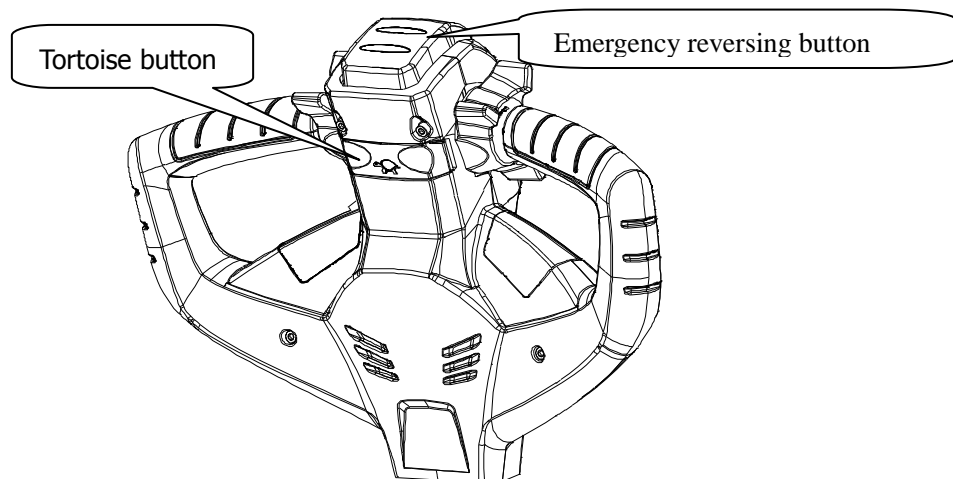

Fig 4
- The truck has the function of low-speed travelling, Figure 4 there is a tortoise button at the back of the handle, when the truck is energized, keep the handle in section B area, When you press the button and keep doing it, meanwhile, Rotating speed knob, the truck will be in a low speed state. The truck returns back to the fast-speed state when releasing the low-speed button.